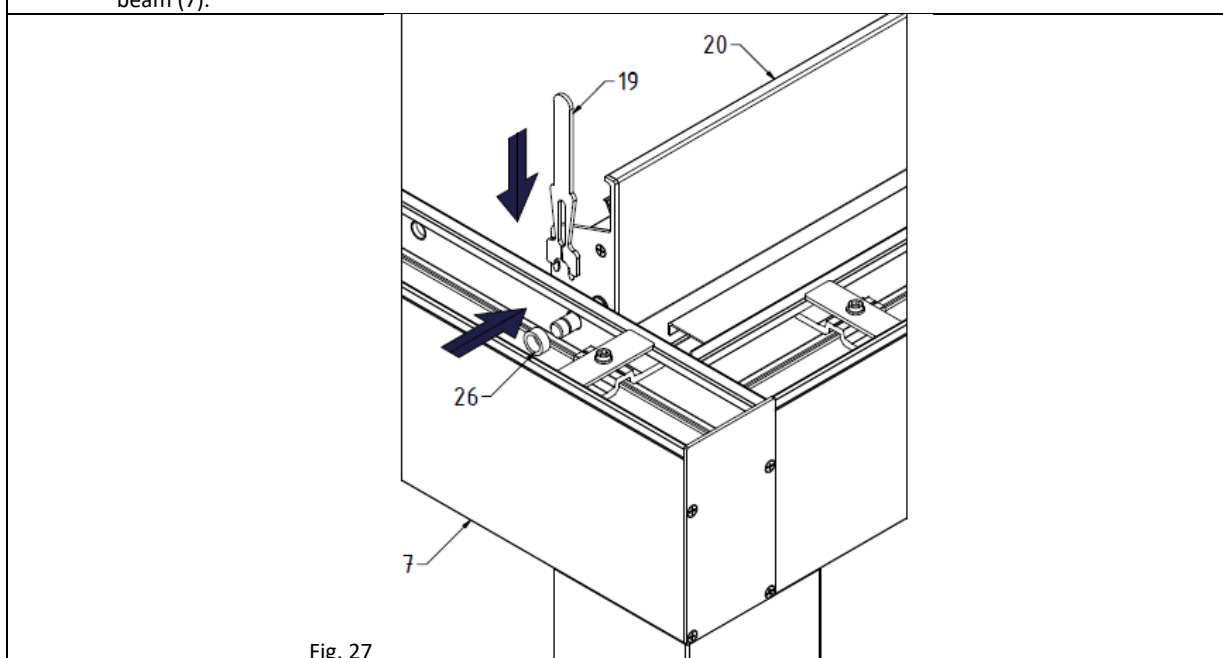

Fig. 27
28. Once all the blades have been fitted, starting with the first blade (20) on the drive side (7), install the spacer sleeves (26) on the inside of the beam at every third blade and secure with DIN 6799 - 10 using the dedicated mounting key (19)-fig.27.